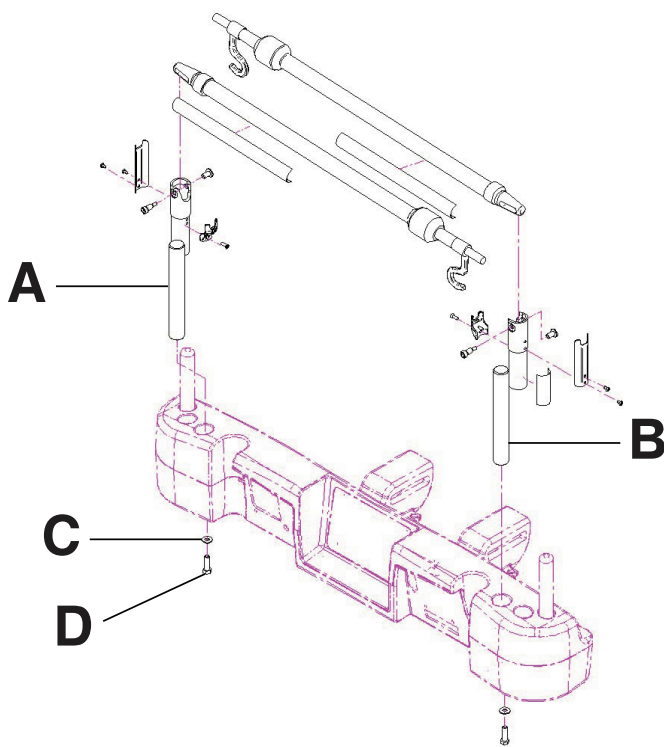

Figure 114: Dual two stage IV pole
1. Using a 3/8 in. drive ratchet and a 1/2 in. socket, install one washer (C) and one bolt (D) to secure the IV pole into the socket at the head end of the product (A) (Figure 114 on page 98).
2. Using a 3/8 in. drive ratchet and a 1/2 in. socket, install one washer (C) and one bolt (D) to secure the IV pole support into the socket at the head end of the product (B) (Figure 114 on page 98).